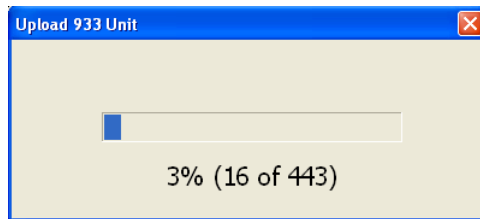

Figure B.3: Uploader Progress Window
8. Click the Upload button (blue with a white UP arrow) and the file will transfer to the 933A. The uploader will start by erasing flash in the 933A, and indicated by the progress screen. After flash has been erased, the program should indicate the progress of the upload with a progress bar as seen in Figure B.3.